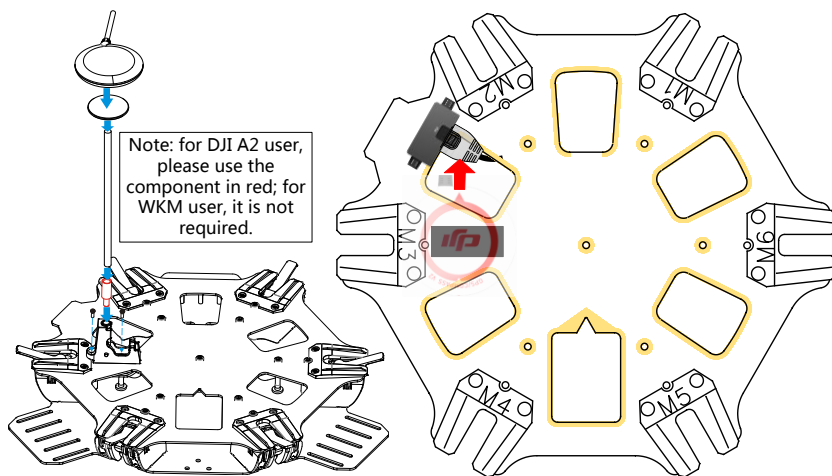

Fig.4 Mount the GPS Fixed Seat and GPS module
6. (Fig.4) Attach the GPS Fixed Seat to the top board (near to the M3), then mount the GPS Module to the GPS Fixed Seat with a bracket.